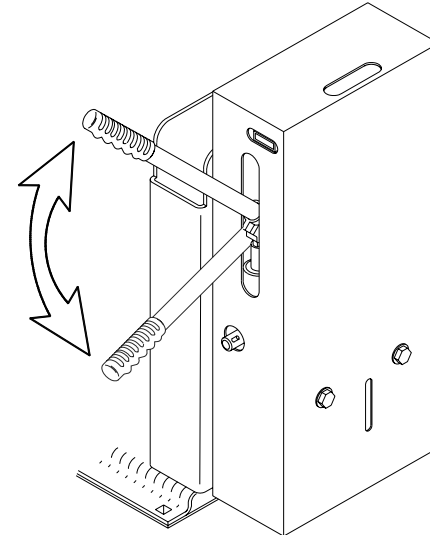

FIGURE 2-15: RAISE PLATFORM
- b. Refer to **Figure 2-15**. Insert pump handle into pump handle socket. Operate pump to begin folding platform.